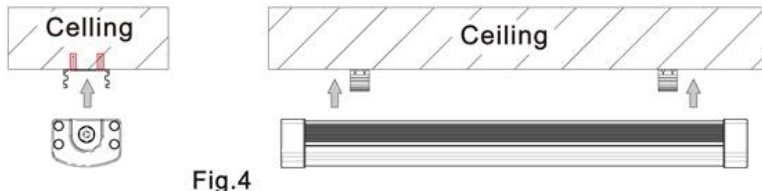

Fig.4
- Step 4: Fix the tube into the buckle. (as Fig.4)